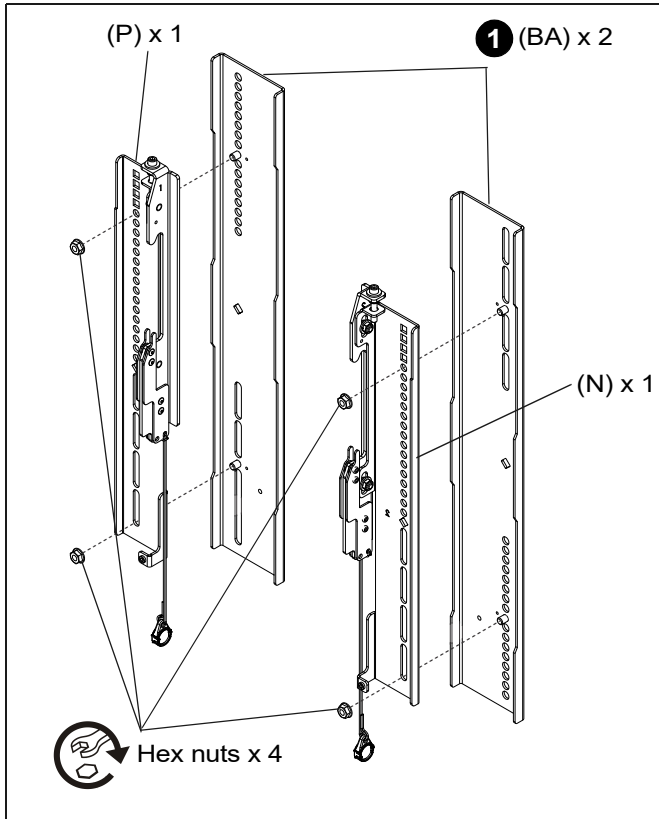

Figure 26
1. Install an adapter bracket (BA) to the left (P) and right (N) interface brackets using the attached hex nuts. (See Figure 26)